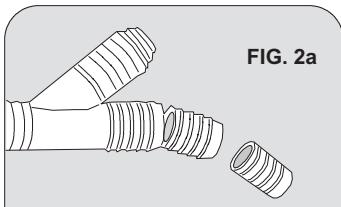

FIG. 2a
3. Universal barbs on the ET116-003 will accommodate the various (IDs) inside diameters dishwasher hoses. Determine which size is required by sliding open end of the hose over the stepped barbs until one fits snugly. If the hose fits snugly over the middle or largest barb, you must cut away the smaller barb(s) with a hacksaw. Use the grooved "cut lines" provided, then smooth away any burrs. (See Fig. 2a)